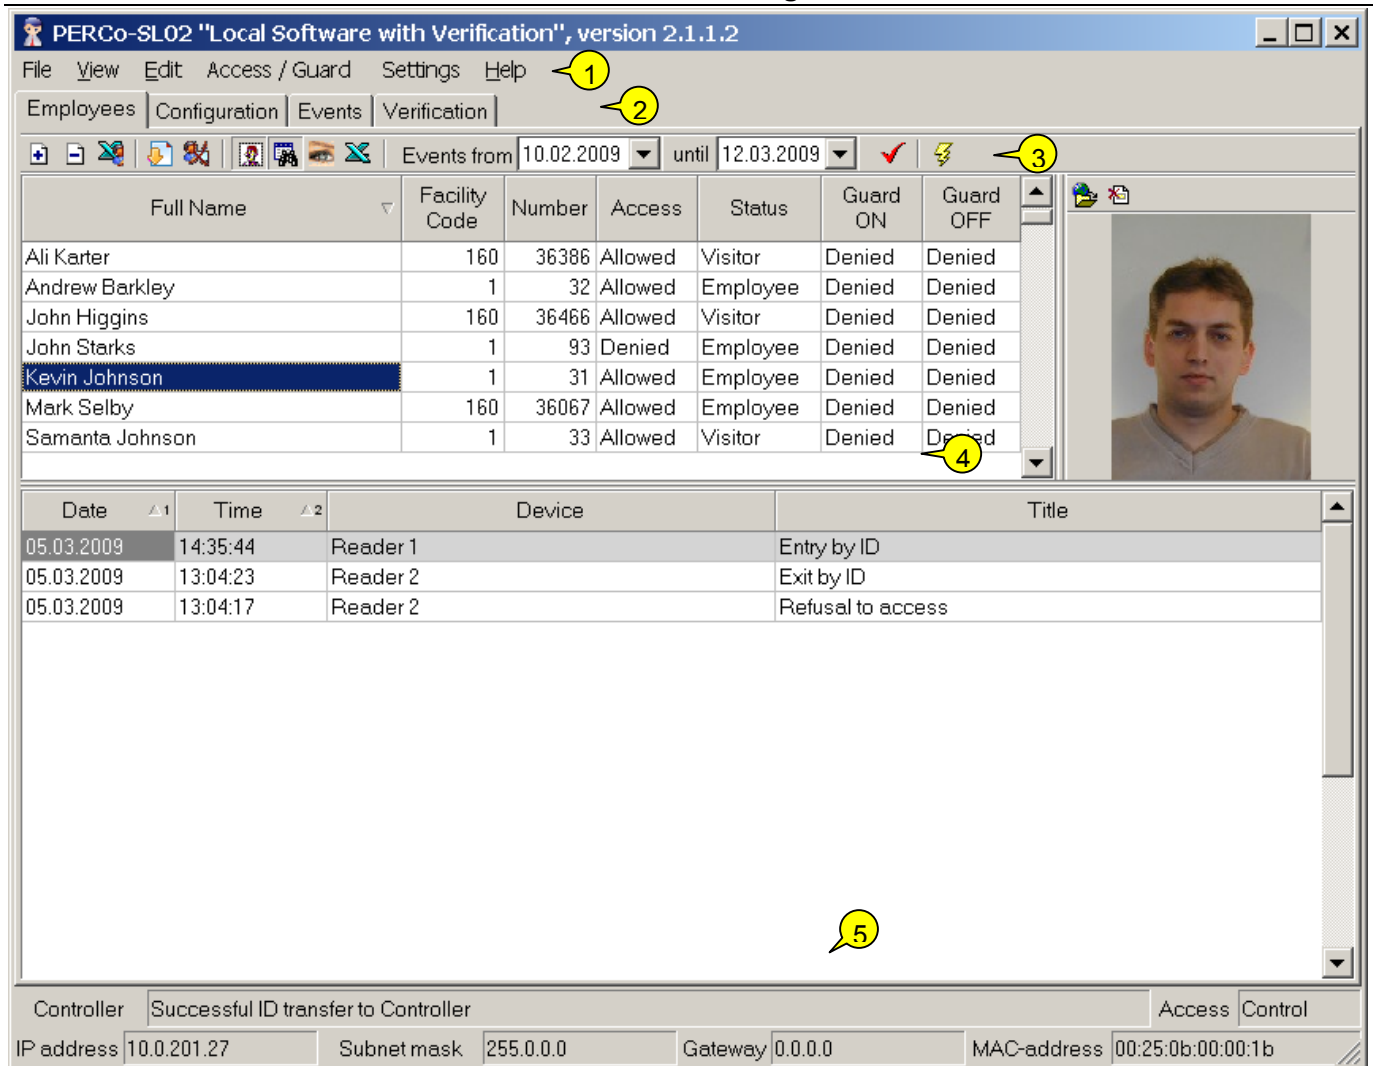

Fig.1. Employees section work window
1. Click on the **Add Employee button** — . A yellow highlighted line will appear in the list (refer to NOTE fig.1).
4. The Access column displays the default option **Allowed**, informing that this employee / visitor is authorized to pass through a certain operating device (OD) in the set access mode. For how to authorize/deny access refer to the Access Authorization/Denial section below.